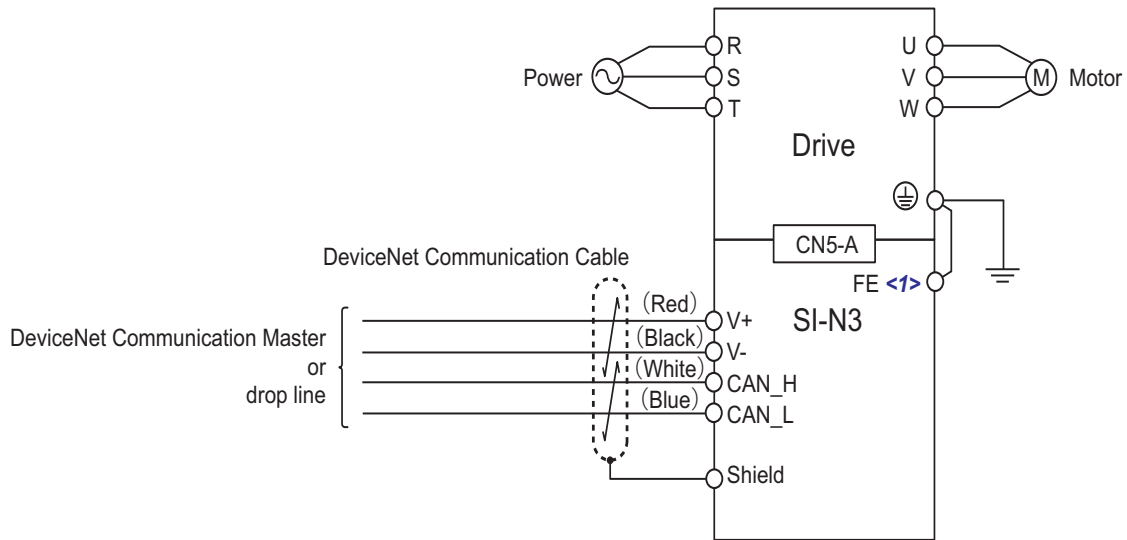

Figure 22 Option Connection Diagram
Ensure the cable end is firmly connected (see Figure 22). Refer to Communication Cable Topology on page 24 for details.
6. Firmly connect the Ethernet communication cable to the option modular connector (CN1). Install Ethernet communications cables apart from main-circuit wiring and other electrical and power lines. Ensure the cable end is firmly connected (see Figure 22). Refer to Communication Cable Topology on page 24 for details of installing.
7. Reattach the drive front cover (D) and the HOA Keypad (E).
5. Firmly connect the DeviceNet communication cable to option terminal block (CN1). Install DeviceNet communications cables apart from main-circuit wiring and other electrical and power lines. Ensure the cable end is firmly connected (see Figure 22). Refer to Communication Cable Topology on page 24 for details.